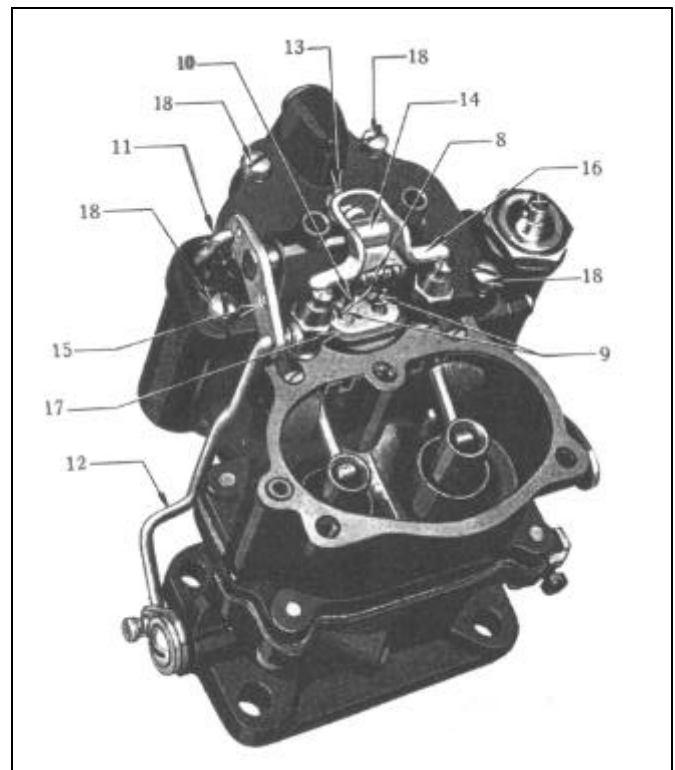

Figure 422
(92) Remove pin spring on metering rod arm pin (8), slide out pin and lift out metering rods (9) and metering rod spring (10). (Figure 422.)
(93) Remove pin spring and pump connector link (11). (Figure 422.)
(94) Remove spring retainer and connector rod
spring to remove throttle connector rod (12). (Figure 422.)
(95) Loosen clamp screw (13) on metering rod arm (14). Remove pump arm (15) and countershaft assembly. Metering rod arm (14) and anti-percolator arm (16) and screw assembly will be free for removal. (Figure 422.)
(96) Remove metering rod disc retainer (17) and screw and two metering rod discs from bowl cover. (Figure 422.)
(97) Remove four bowl cover attaching screws (18) and lock washers to remove bowl cover and body gasket. (Figure 422.)
(138) Lay new body gasket on main body casting and install bowl cover assembly. Install four bowl cover attaching screws (18) and lock washers and tighten evenly. (Figure 422).
(140) Install pump connector link (11) and pin spring with pin spring at upper end (Figure 422). Pump has two settings, long stroke for cold temperatures and short stroke for summer or hot temperature. Vent hole is in bowl cover beneath pump arm.